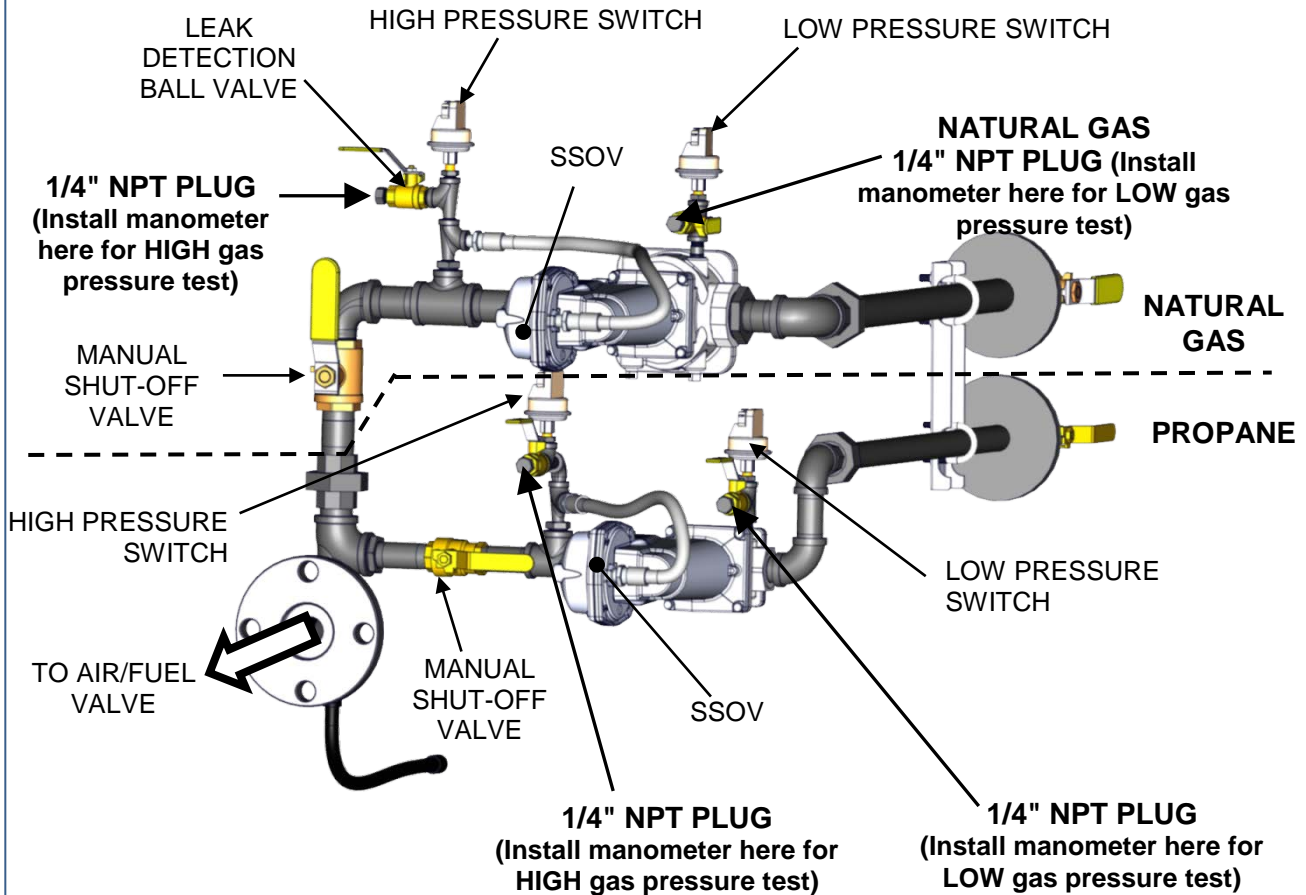

Figure 5-1. Low & High Gas Pressure Testing (INN1350 DF Gas Train)
Complete the following procedure once using the components on the NATURAL GAS gas train (see Figure 5-1) and then repeat the same steps on the PROPANE gas train components.
2. Refer to Figure 5-1 and ensure that the NATURAL GAS leak detection ball valve located at the high gas pressure switch is closed.
To simulate a high gas pressure fault, complete the following procedure once on the NATURAL GAS gas train (see Figure 5-1) and then repeat the same steps on the PROPANE gas train.